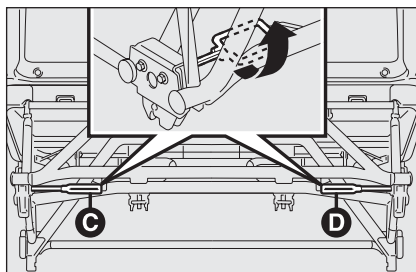

fig. 34
- from pack position, turn levers **C** and **D**-fig. 34 forward (as specified on the adhesive label located on the lower crossmember)